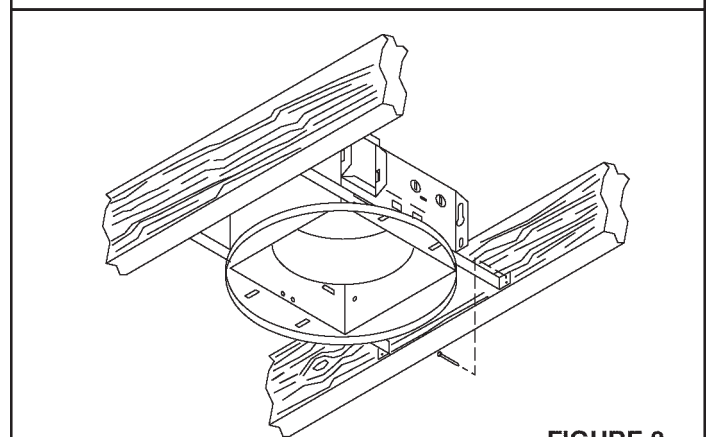
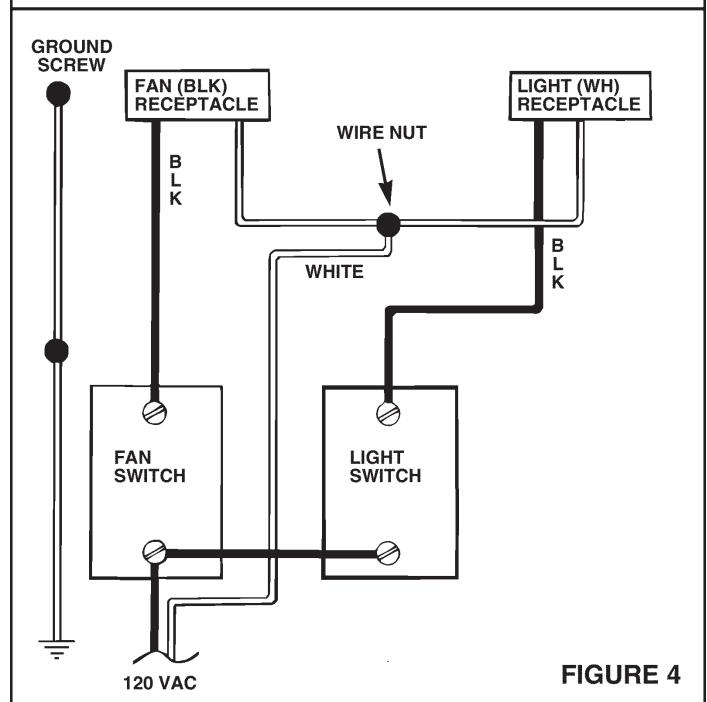

FIGURE 3
FIGURE 4
Refer to Figure 3.
4. Refer to Figure 4. Connect white wires from the fan and light receptacles to white (neutral) wire from the supply. Connect black wire from fan receptacle (black) to wire from fan switch. Connect black wire from light receptacle (white) to wire from light switch.
WIRING AND DUCTING: Plan ducting and wiring BEFORE proceeding with installation. Refer to Figures 4 and 5 for wiring and Figure 3 for ducting.